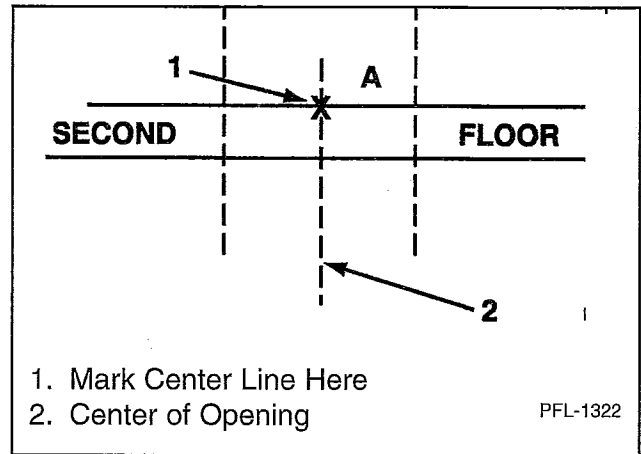

Figure 3
3. Mark the center of the opening. See Figure 3.